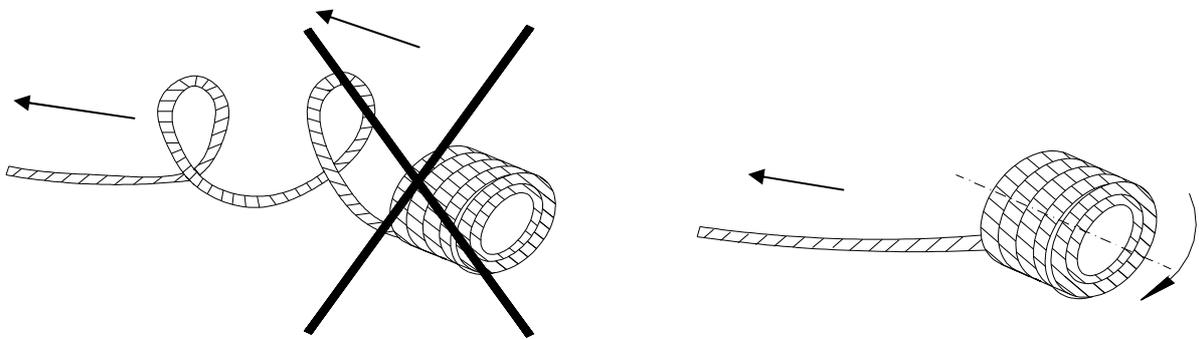

Fig. 2-1
- 1) Completely unwind the wire rope on the clean ground and avoid any twist (see Fig. 2-1). If it is not possible to unwind the wire rope completely, unwind it in large loops. In this way it can avoid danger during enwinding the wire rope onto the drum.